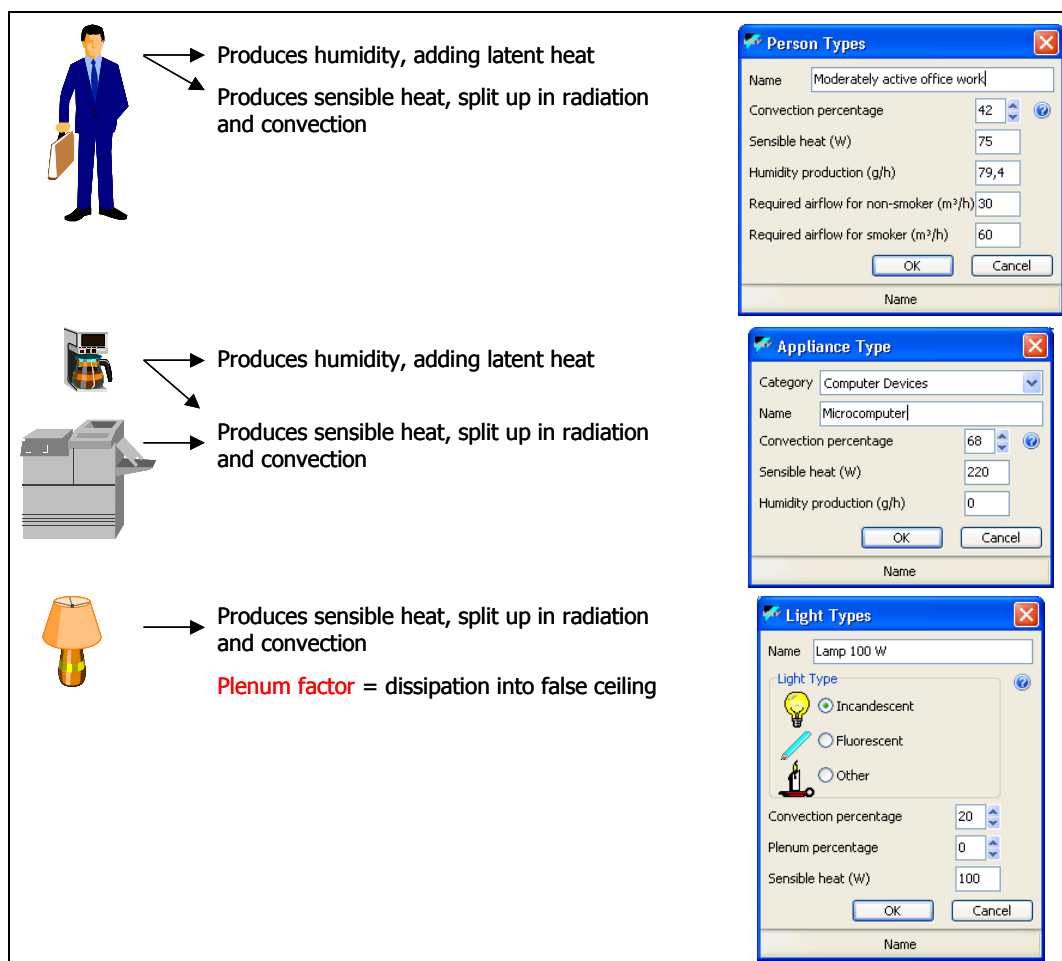

Figure 119: The heat sources in a room and how to define them in the company database
- c. Use persons: the company database contains many person definitions (see also Figure 119 in the next chapter 5, section 5.2). A person requires a minimum amount of fresh-air per hour. Depending on the number of persons in a room, VRVPro calculates the required
Instead of you having to define different kinds of persons, appliances and lights, the company database (see section 1.2) already contains several standard (ASHRAE) definitions. Figure 119 summarizes the heat sources and shows the corresponding company database screens to add or change these definitions. For a person the company database also stores the required fresh air for that person type, both for smoking and non-smoking persons.